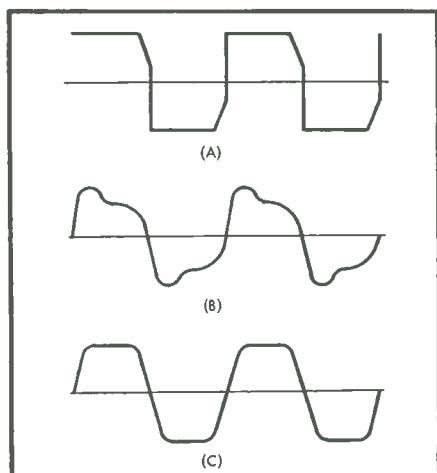

Fig. 7. Wave forms across primary of power transformer with various values of buffer capacitor. (A) Capacitance correct; (B) too low; and (C) too high.
3. Single-conductor cable from the battery (actually the starter relay) to amplifier-power supply. #10 wire should be used. This cable will carry 10 amperes, so the plug terminating it at the amplifier-power supply must have ample current handling capabilities. An ordinary household appliance two-prong plug, with prongs wired together as shown in Fig. 7 will serve nicely.
The vibrator contact points will burn and erode rapidly if the buffer capacitor, C_{44} , is of incorrect value. After construction is complete, an oscilloscope should be connected across the primary of the power transformer so that the wave form can be examined. The wave form shown in (A) of Fig. 7 will be obtained when the proper buffer is used. A capacitor rated at .006 μf at 1600 volts is a good value for the initial test. (B) and (C) of Fig. 7 show the wave form to be expected if the capacitance is too low or too high.